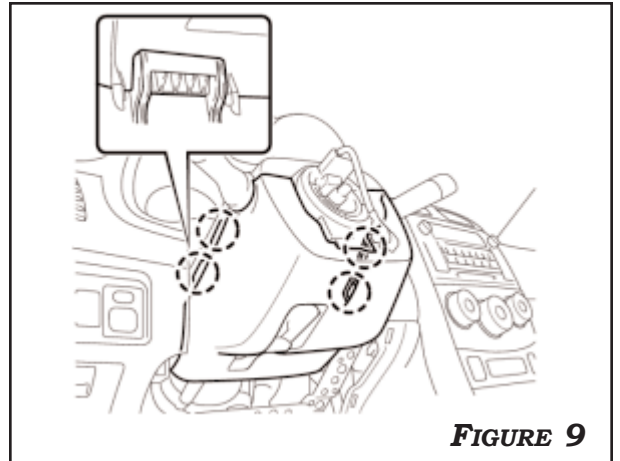

FIGURE 9
1. DISENGAGE 4 CLIPS TO REMOVE LOWER STEERING WHEEL SHROUD. **FIGURE 9.**